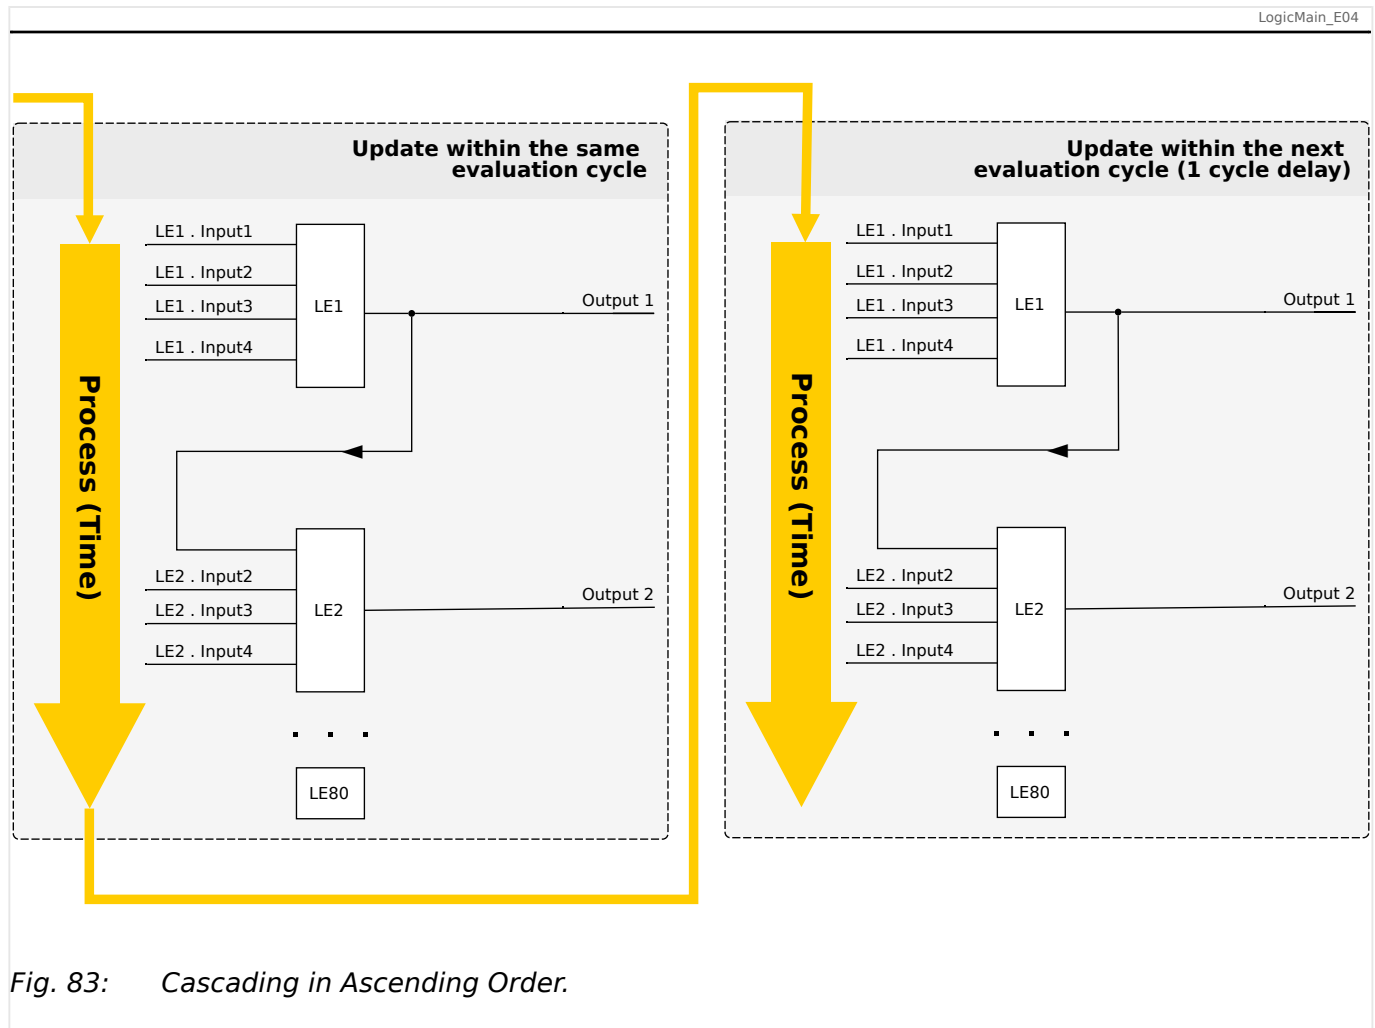
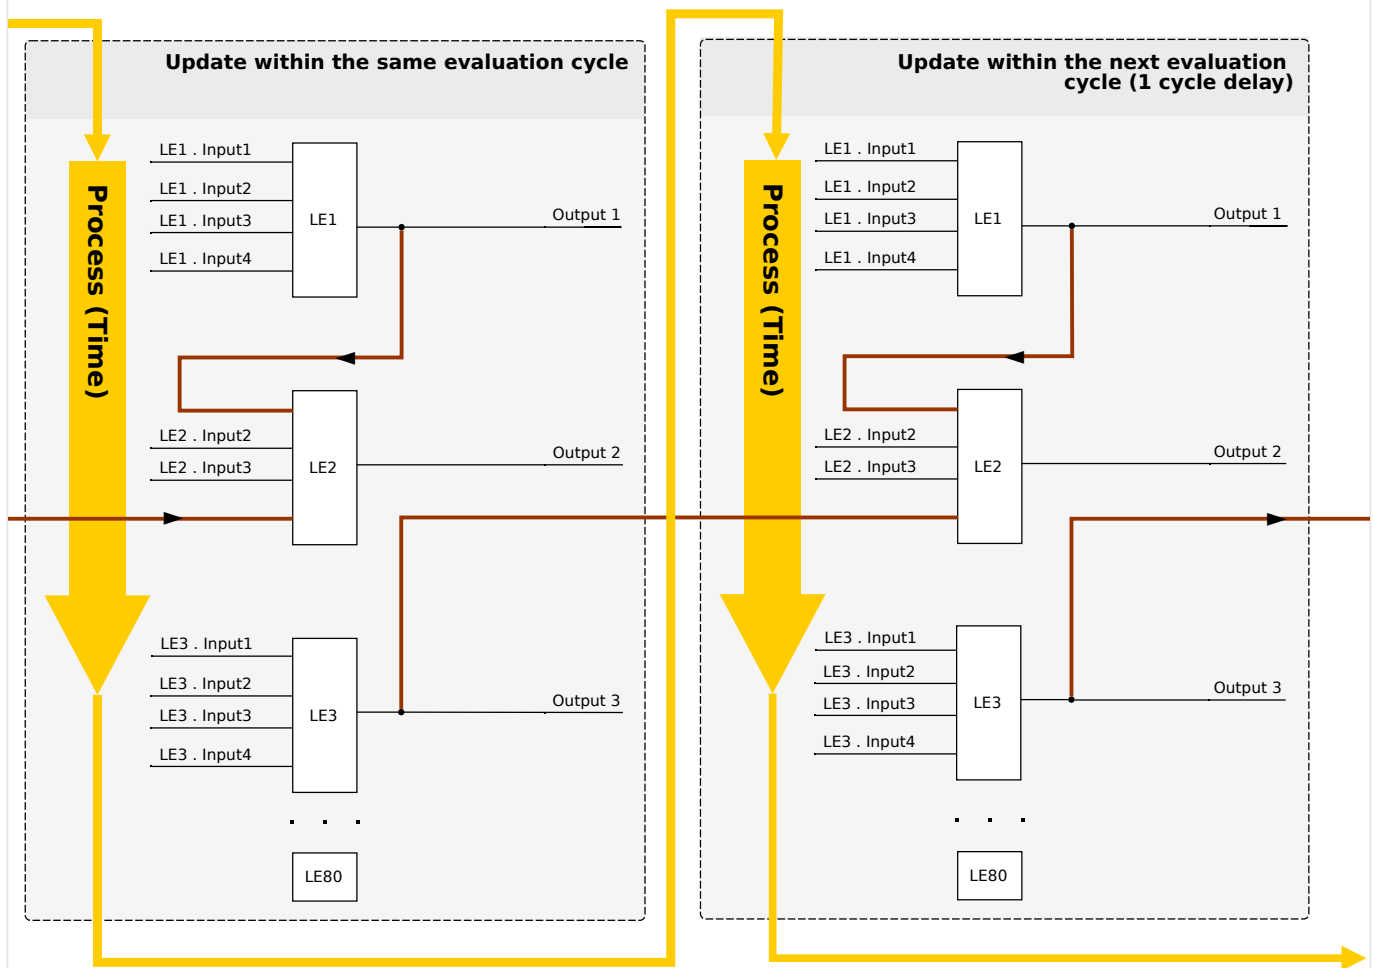

Fig. 83: Cascading in Ascending Order.
Fig. 84: Cascading in Descending Order.
- **Ascending** sequence means that some output is fed into the input of a logic equation with **higher** number. For instance, diagram  Fig. 83 below shows an example where the result of Logic Equation LE1 is used as an input of Logic Equation LE2.
- **Descending** sequence means that some output is fed into the input of a logic equation with **lower** number. For instance, diagram  Fig. 84 shows an example where the result of Logic Equation LE3 is used as an input of Logic Equation LE2.
Both ascending and descending sequences may be used and combined one with the other, with no immediate difference. However, due to the evaluation of all equations in ascending order the actual run-time values that are fed in at the input of an equation will have a different “age”, as is shown in  Fig. 83 and  Fig. 84 below.
In the example shown in  Fig. 84 above, “Logic Equation 2” uses the output states of two other equations, “Logic Equation 1” and “Logic Equation 3”. The result of “Logic Equation 1” is used in ascending order and has therefore been evaluated within the same process cycle. The result of “Logic Equation 3” is used in descending order and has therefore been evaluated in the previous process cycle.